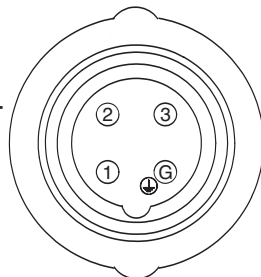

Figure 4 Power Connection Kit Assembly
1. Use the Power Connector Kit (included) to route the power into the housing. See **Figure 4, Steps 1-8** to assemble Power Connection Kit .
2. See **Detail A** in **Figure 4** for the wiring configuration.